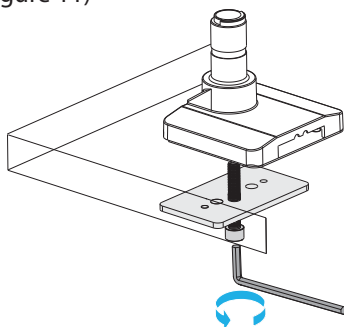

Figure 11
6. Insert the **Grommet Screw** through the **Grommet Plate**, **Desk Grommet Hole**, and into the **Grommet Base Assembly**. Use the **6mm Hex Key** to tighten the **Grommet Screw**. (Figure 11)